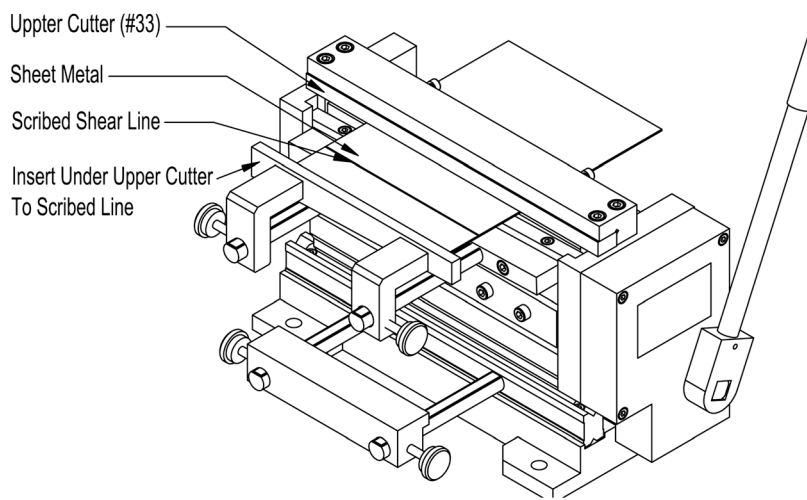

Figure 7 – Inserting scribed sheet metal
Step 3: Slide the material between the upper cutter and the lower cutter so that the upper cutter is positioned directly above the mark, as shown in Figure 7.